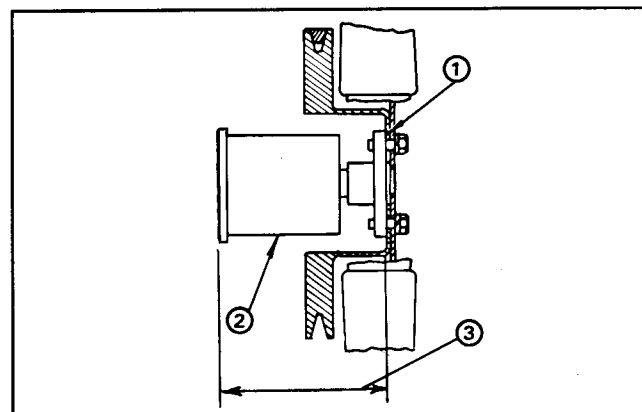

Figure 41
4. Support the shaft through the hole in the hub. Push the fan hub onto the shaft to dimension shown in Figure 41.
5. Fasten fan pulley to fan hub with four (4) capscrews and lockwashers.
7. Install the hub to the bracket with two (2) capscrews and locknuts.